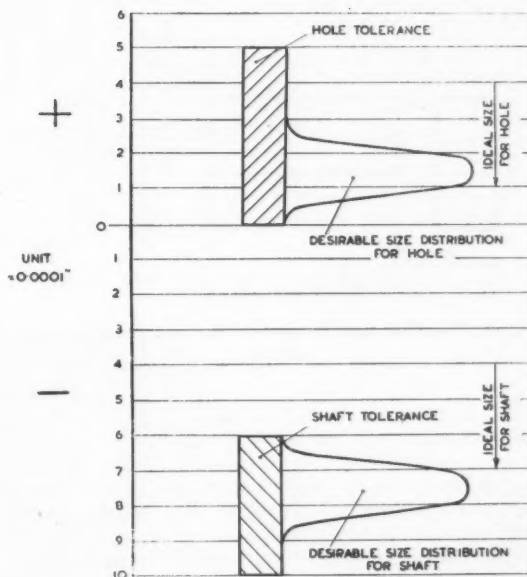

Fig. 6. Diagram showing fit between shaft and hole.
0.0006 in. to 0.0015 in. clearance, which is satisfactory because it is inside the boundary of variation which the designer agreed to tolerate. This is illustrated in Fig. 6, which also shows the ideal size of the hole as 1.0001 in. and the ideal size of the shaft as 0.9993 in. for the ideal fit of 0.0008 in. clearance. The operator responsible for the final machining of these parts should be encouraged to work as closely as possible to the ideal size and to look upon the boundaries of tolerance as danger posts from which he should keep a safe distance, because they indicate a size which has departed from the ideal by such a large amount that the part must be rejected.
Consider the production of the shaft to the tolerance of 1 in. f 5 (0.9994) as shown in Figs. 6, 7 and (0.9990)